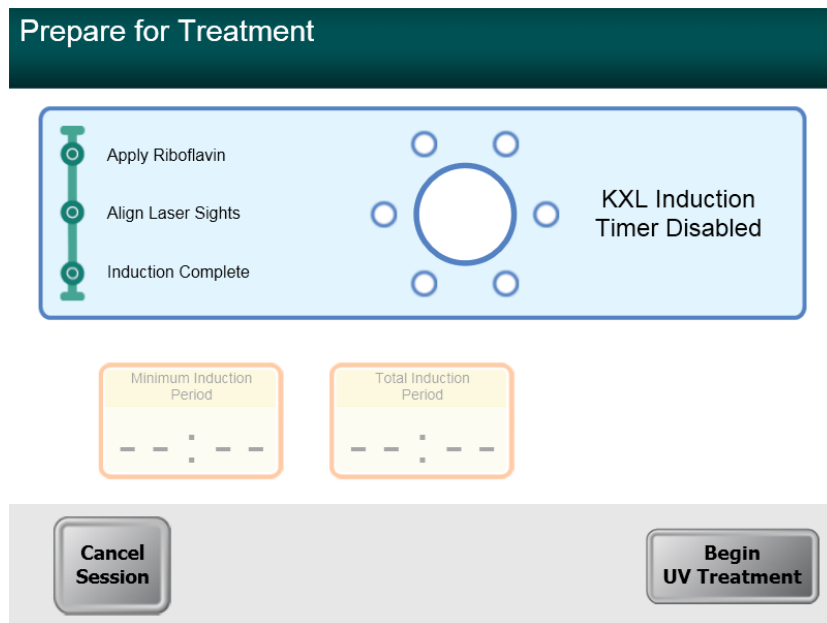

Figure 3-15. Prepare Patient Screen: KXL Timer Disabled
- If “Use External Induction Timer” is chosen, the internal KXL Induction timer will be disabled and user is responsible for monitoring Induction time using an alternative method. See Figure 3-15.